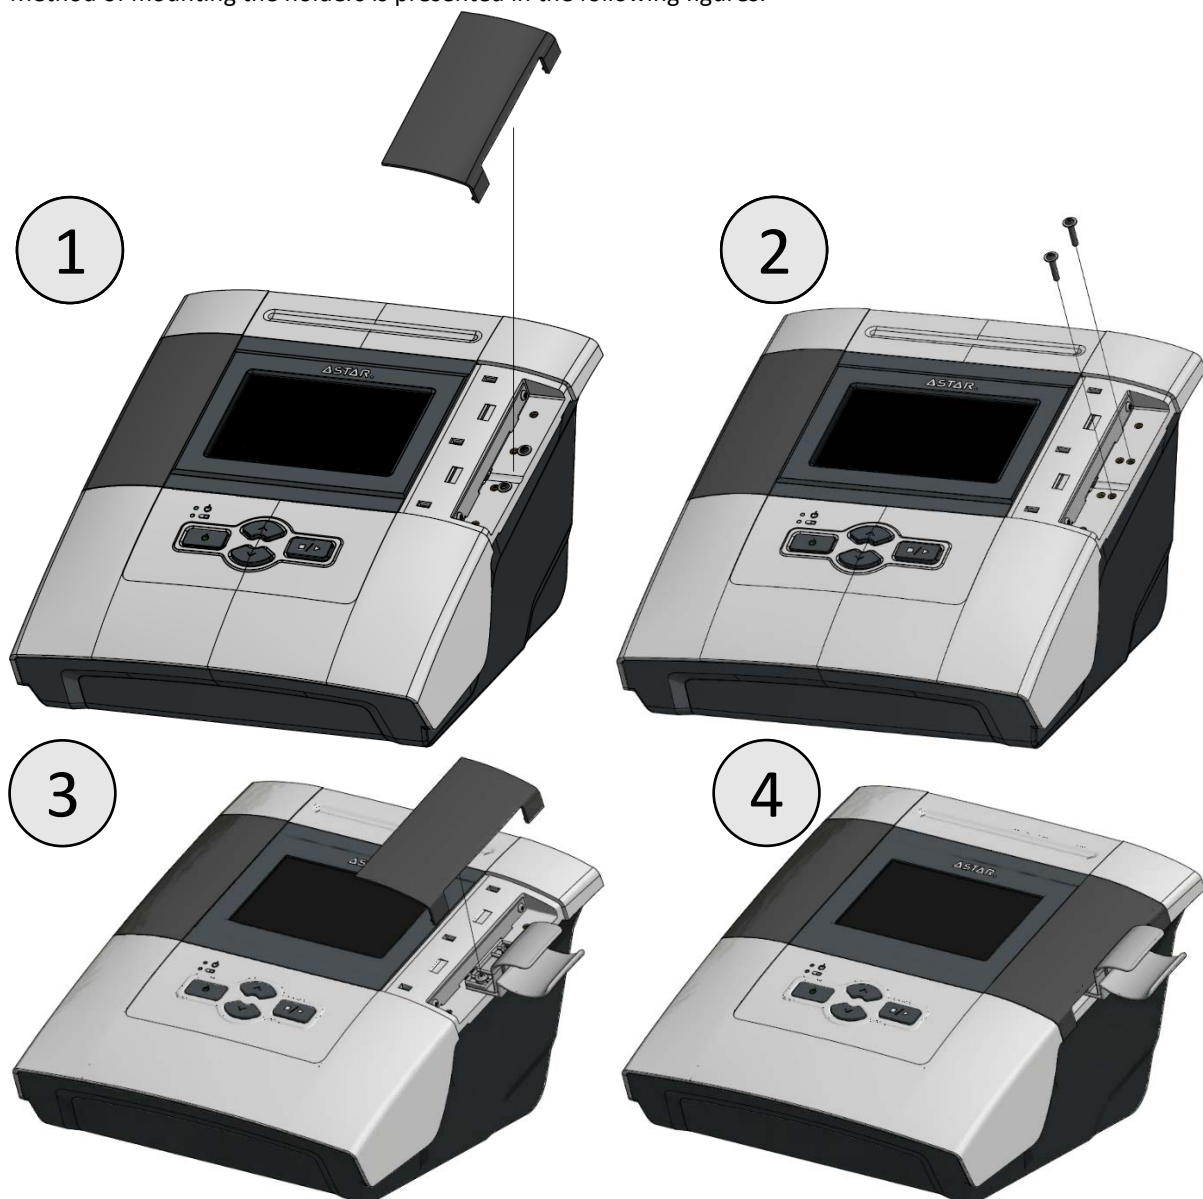
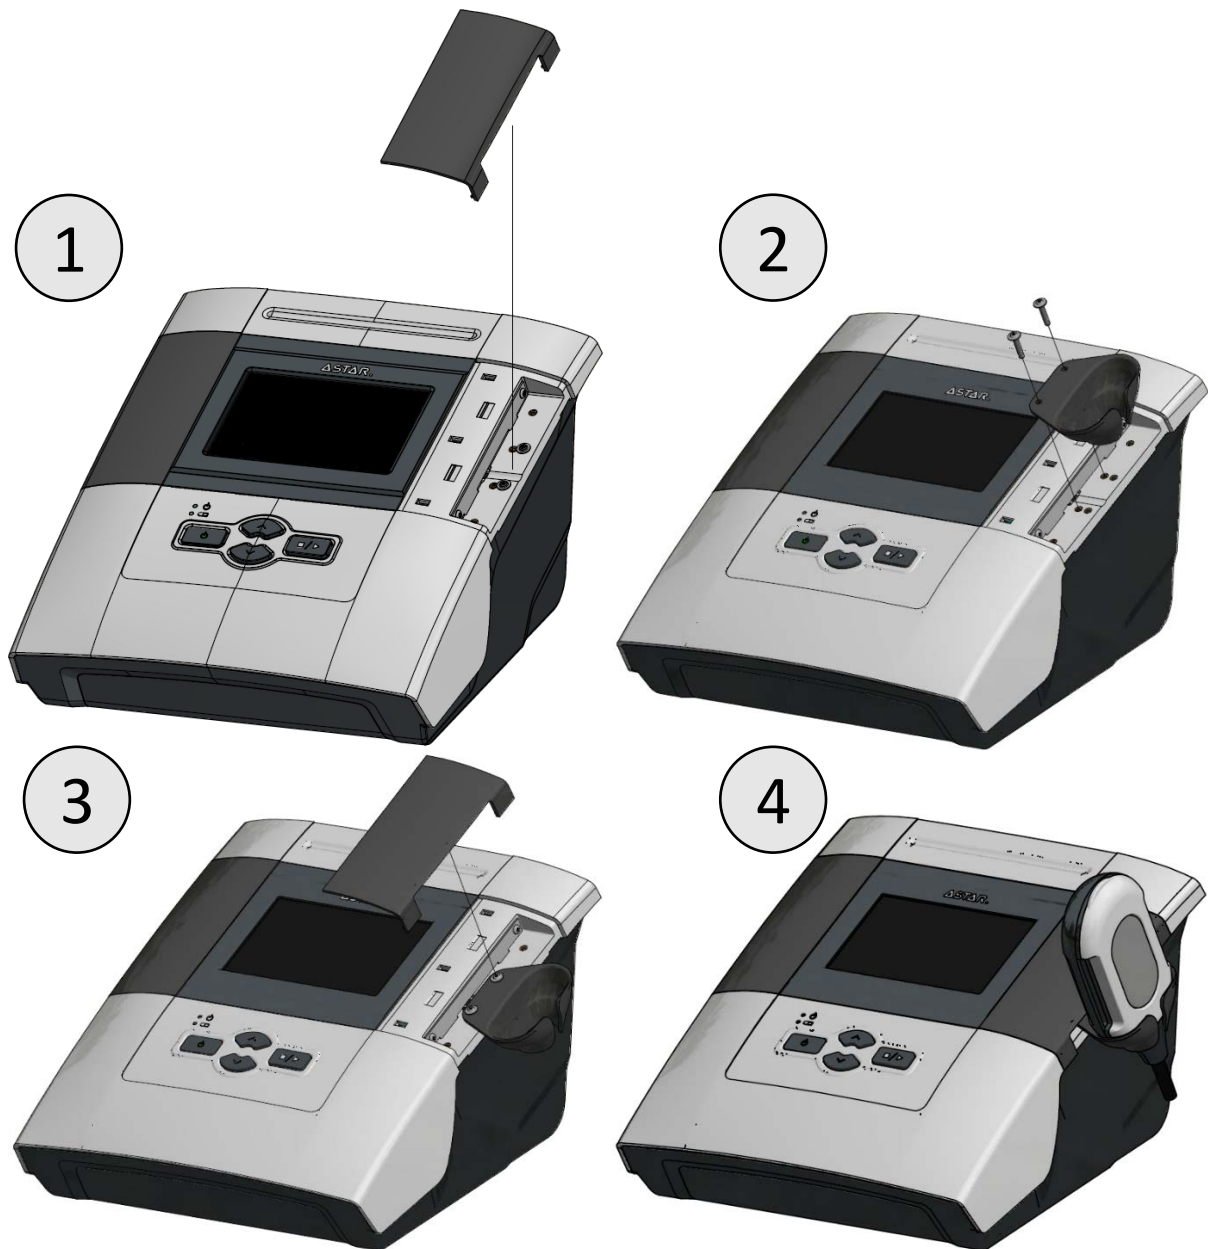

Figure 6-3. Method of mounting the standard ultrasound head holder
Figure 6-4. Method of mounting the SnG head holder
2.	Adjust the holders and screw bolts in according to Figure 6-3 and Figure 6-4.